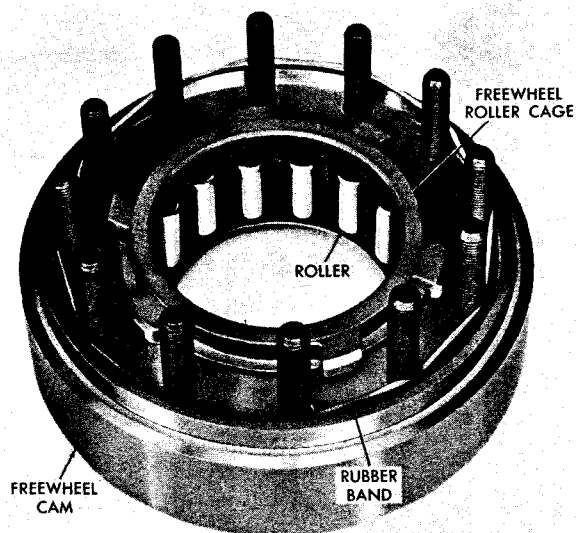

Fig. VI-12. Roller cage and rollers installed in cam (in units with S/N 152 and above)
(4) Place a rubber band around the bolts to help hold them in place and position the cam with the threaded end of the bolts facing up (fig. VI-12).
(5) Install freewheel roller cage (fig. VI-12). Grease the pockets in the freewheel roller cage and cam with an oil soluble grease and install fifteen rollers into the cam pockets (fig. VI-12).